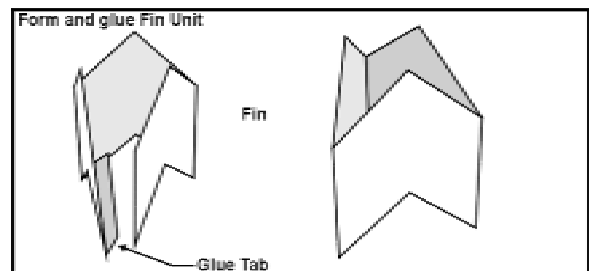

Figure 7
- Cut out the Fin Unit pattern. As with the other items, lightly score along all score lines, fold along score lines then apply a film of glue along the glue tab and form your Fin Unit as shown in **Figure 7**.